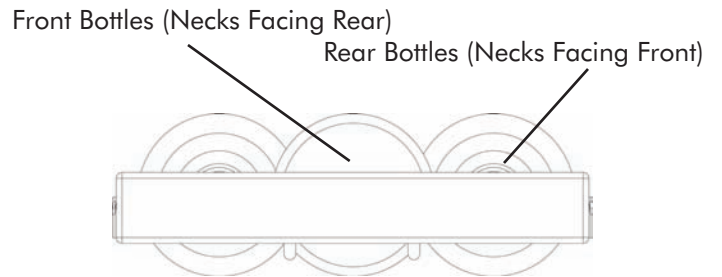

Figure 4
The five (5) roll-out shelves each hold three (3) bottles. See Figure 4 for typical wine bottle spacing. Tall bottles should not be loaded on the bottom rack because they may prevent the door from closing.